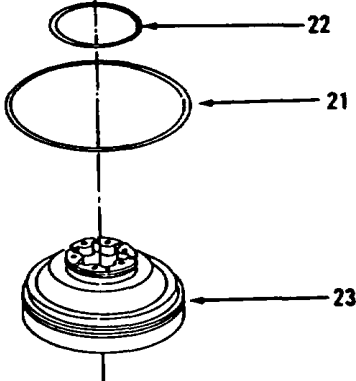

Figure 14-155.
- 7. Using dry ice, lower the temperature of cup (25).
- 8. Install cup (25) in housing (27).
- 9. Using seal installer, install seal assembly (24) in housing (27).
- 10. Coat metal surface of seal assembly (24) with engine oil SAE 30.
- 11. Install new seals (22 and 21) on piston (23, Figure 14-155).